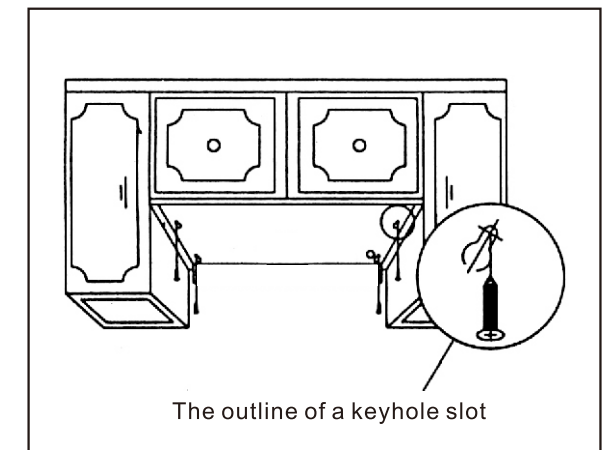

Fig.8 Fasten screws to the bottom of the cabinet
3. On the bottom of the cabinet, mark the center position of the narrower ends of the four keyholes on the top of the range hood. Screw the four 5/8" - long wood screws (3/16" in diameter) on the cabinet loosely. (Fig.8)